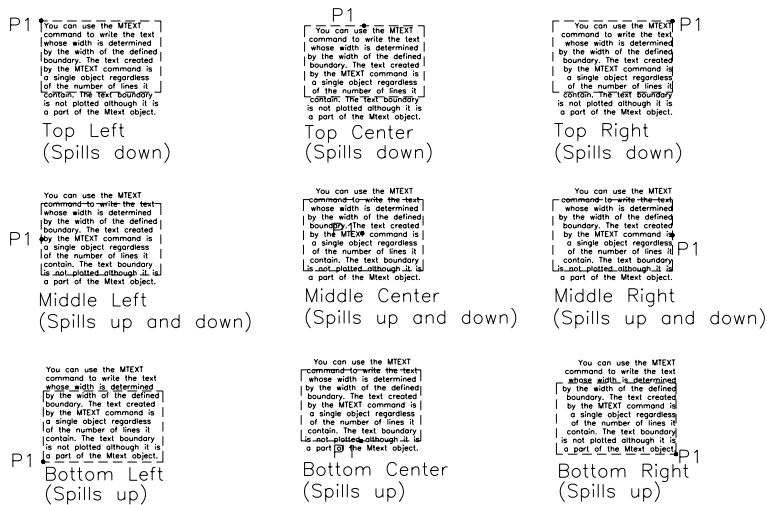

Figure 7-15 Text justifications for multiline text (P1 is the text insertion point)
In large complicated technical drawings, the **Justification** option is used to fit the text matter with a specified justification and alignment. For example, if the text justification is bottom-right (BR), the text paragraph will spill to the left and above the insertion point, regardless of how you define the width of the paragraph. When you choose the **Justification** button in the **Paragraph** panel of the **Text Editor** in the **Ribbon**, a cascading menu appears that displays the predefined text justifications. By default, the text is **Top Left** justified. You can choose the new justification from the cascading menu. The various justifications are TL, ML, BL, TC, MC, BC, TR, MR, and BR. Figure 7-15 shows various text justifications for multiline text.